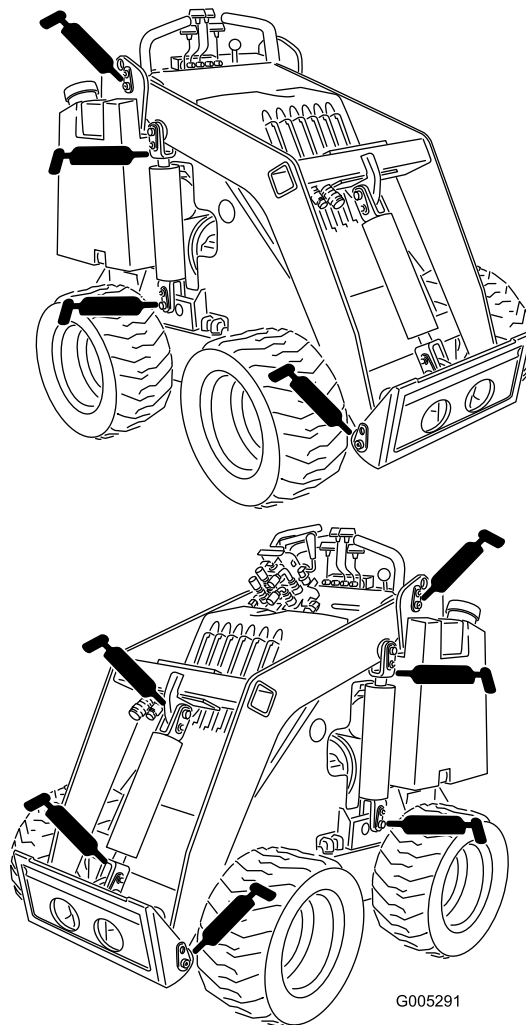
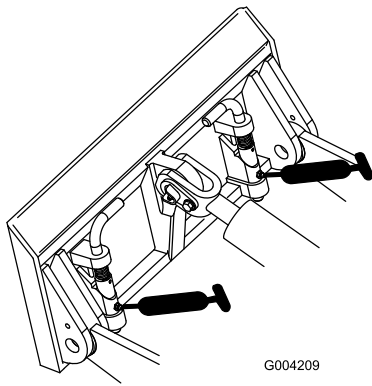

Figure 19
Figure 20
4. Connect a grease gun to each fitting (Figure 19 and Figure 20).